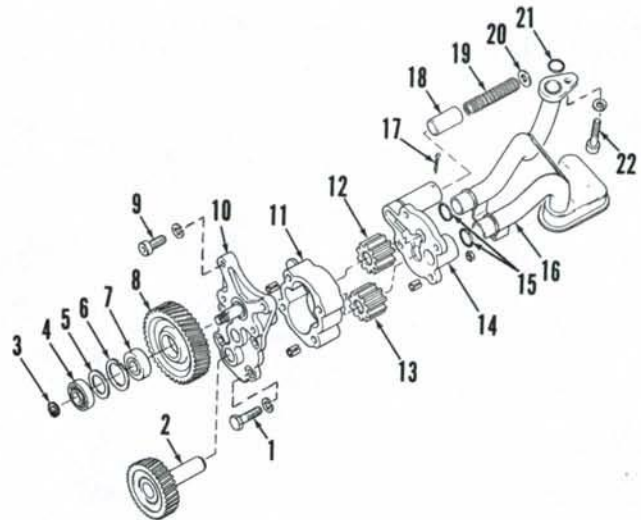

Fig. 55—Exploded view of the oil pump used on all models.
To disassemble the oil pump, remove pressure and suction pipe assembly (16—Fig. 55) and "O" rings (15 and 21). Remove nut (3) and pull idler gear (8) and bearings from front cover (10). Remove bearings (4 and 7) washer (5) and snap ring (6) from idler gear. Remove nuts from rear of body bolts (1) and remove rear cover (14). Remove body (11) and driven pump